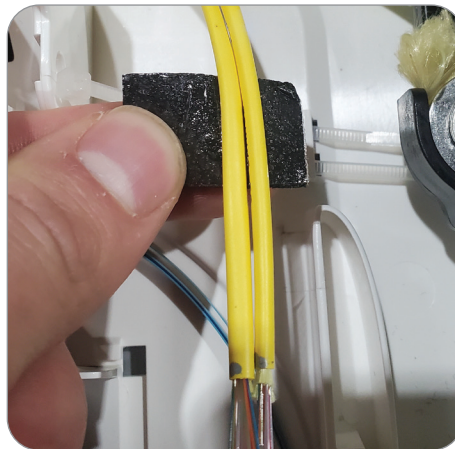

Figure 78
6. Using the supplied adhesive foam included with the splice tray, cut a piece of foam and wrap around the sub-unit or buffer tube (up to 2 at a time). Cinch tie wraps securely around the foam, but not too tight that it damages the sub-unit or buffer tube. Cut tie wrap tails flush (**Figures 78 and 79**).